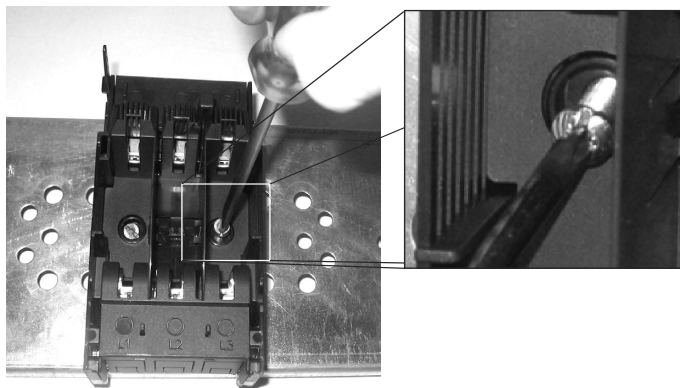

Figure 8
- Fix the disconnecter to a mounting plate with M6 screws (Figure 8);